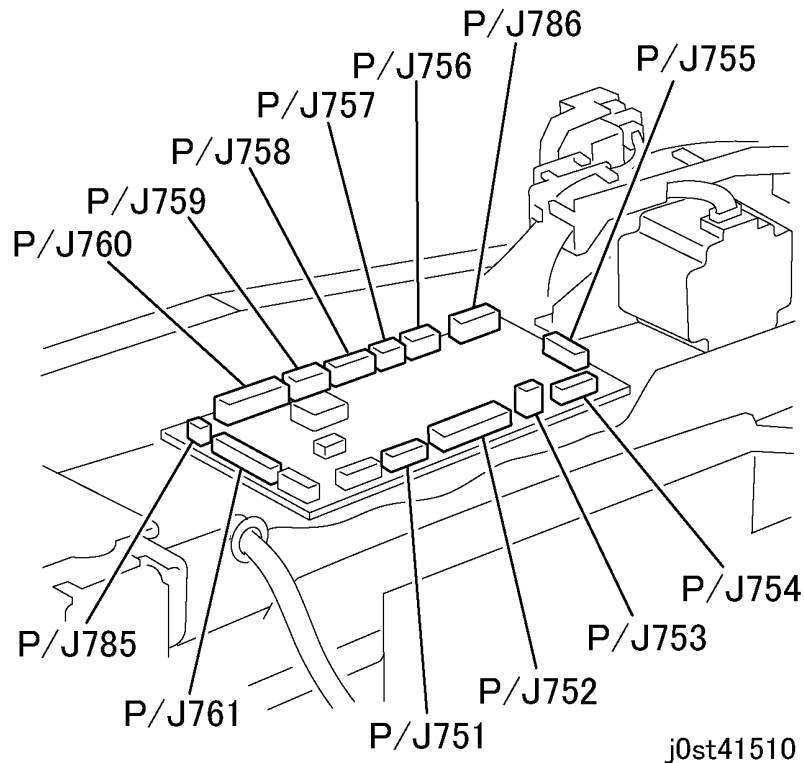

Figure 1 Disconnecting the DADF PWB connectors
3. Disconnect the DADF PWB connectors (Figure 1).